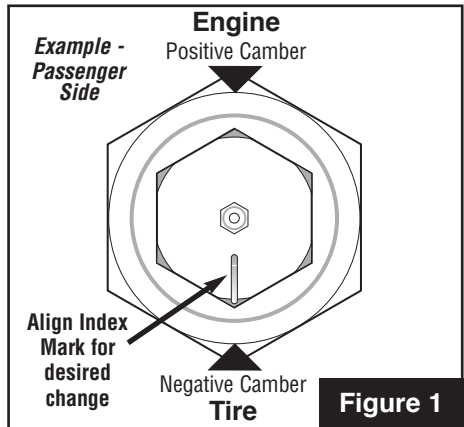

Figure 1
7. Loosen SPC ball joint 2 full turns, then clock indexing mark on top of SPC ball joint to achieve desired camber change. (**See Fig. 1**)